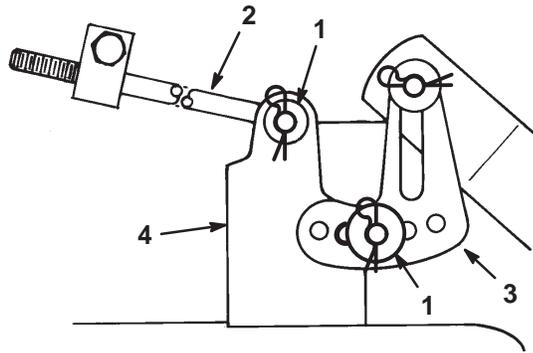

Figure 40
- Remove the hairpin cotter and washer from the end of the long rod (Fig. 40). Slide the rod out of the mower mount. Repeat this step on the opposite side of the mower.
- Remove the hairpin cotter and washer at the mower leveling bracket (Fig. 40). Slide the bracket off the mounting pin. Install the washer and hairpin cotter for storage.